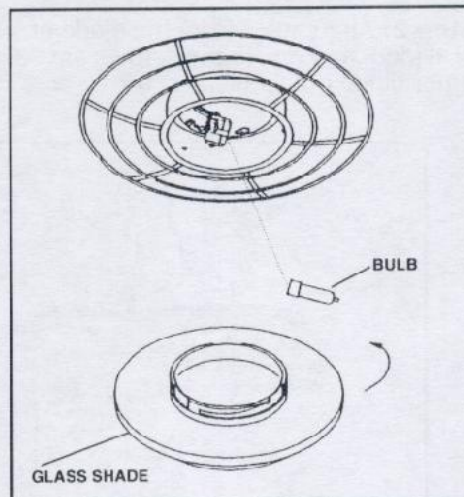

FIG. 18
**Step 3.** Connect the blue wire to the Black wire that has the female connector. Repeat process with the remaining two white wires. (Fig. 18)
**Step 4.** Install the halogen bulb included with your fan, make sure not to touch it with your bare hands. The oil residue from your hands will shorten the life of the halogen bulb. If you accidentally come into direct contact with the bulb, wipe thoroughly with a clean, lint free, cotton cloth. DO NOT EXCEED THE MAXIMUM WATTAGE. (Fig. 18)